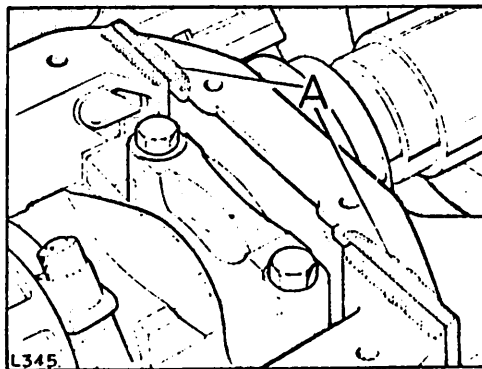

Fig. 1 Sealing cylinder block and front cover sump faces
2. Apply a coating of Hylomar SQ 32M approximately ½ in. to ¾ in. (12 mm to 18 mm) wide in the area 'A' at Fig. 1.